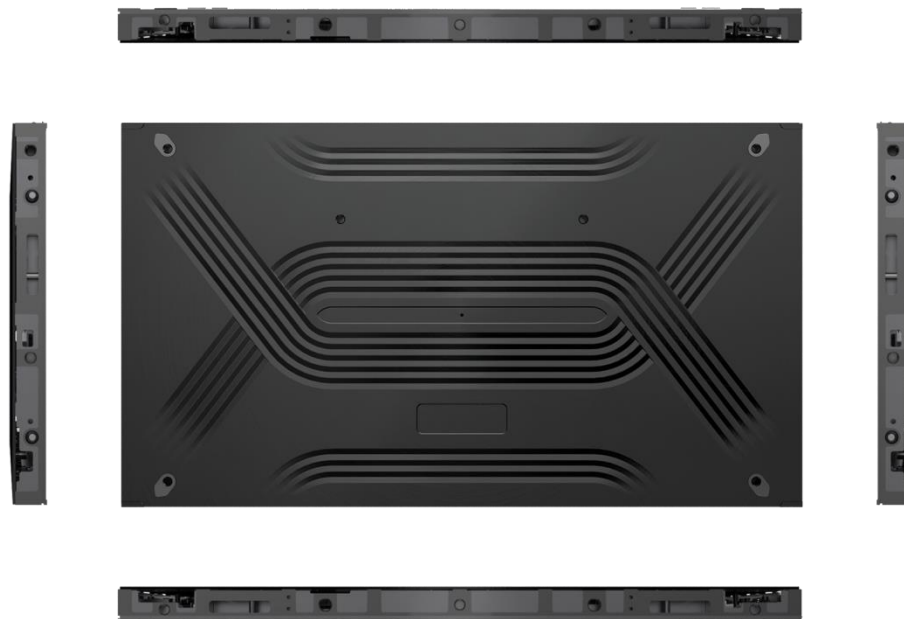

Figure 43
1. Install the left and right edgings. The left and right edgings are clipped in the side spring locating pinhole with clips (as previously described, the spring locating pin or the leftmost of the screen should be removed and an edging should be installed), as illustrated in Figure 43.